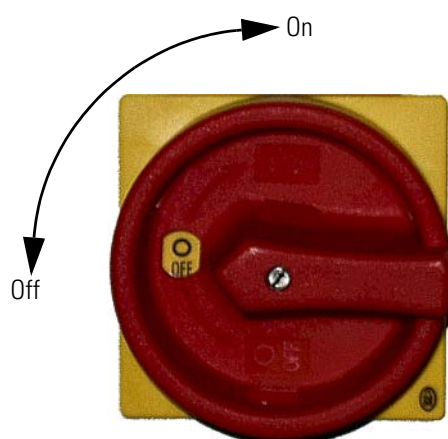

Figure 3-4. Main power switch in Off position
If you need to switch off the mass spectrometer in an emergency, place the main power switch (located on the power panel at the right side of the Orbitrap Elite MS) in the Off (0) position. This switches off all power to the instrument, including the linear ion trap, multiple socket outlets, and the vacuum pumps. The main power switch must be turned 90° counterclockwise to switch off the instrument. See Figure 3-4.